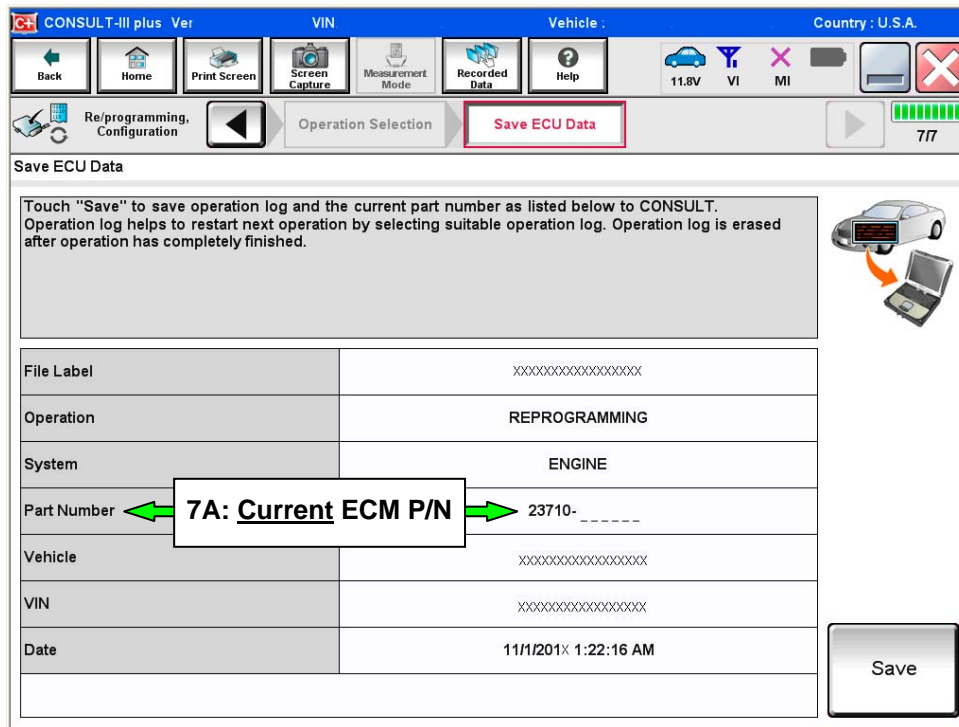

Figure 2
6. Follow the on-screen instructions and navigate C-III plus to the screen shown in Figure 2 on the next page.
7. When you get to the screen shown in Figure 2, confirm ECM reprogramming applies as follows.